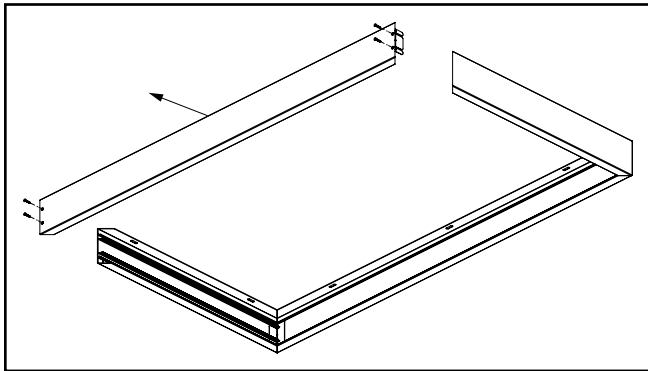

Figure 7.
- A7. Unscrew and remove the long rail that is not attached to the surface, as well as the L-brackets, and retain for reuse. (Figure 7.)